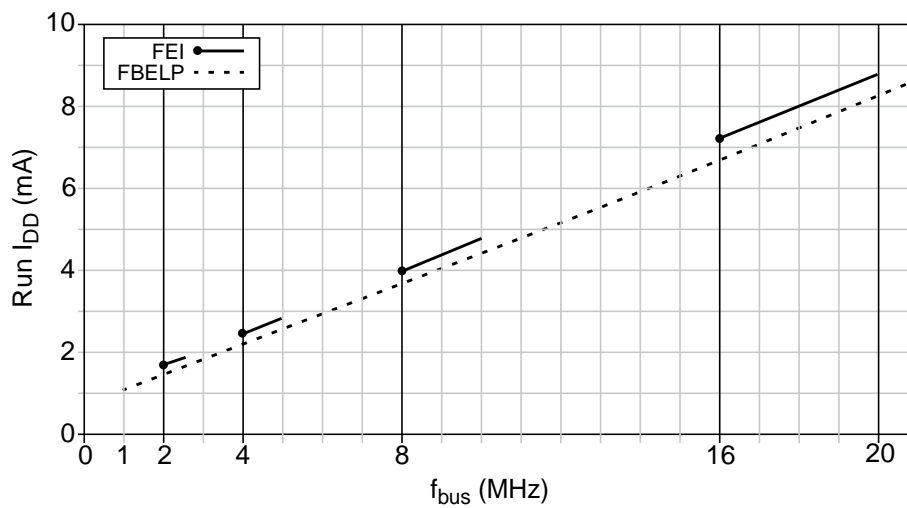
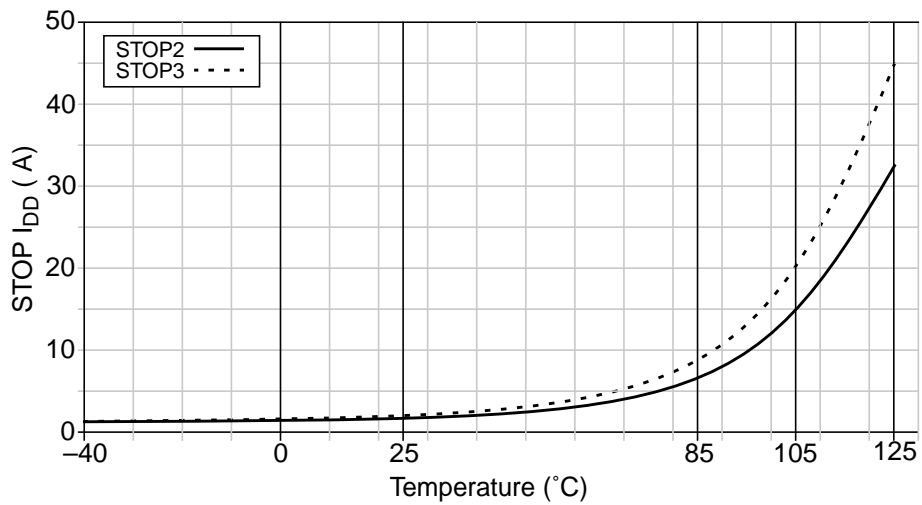

Figure A-5. Typical Run  $I_{DD}$  vs. Bus Frequency ( $V_{DD} = 5V$ )
Figure A-7. Typical Stop IDD vs. Temperature (VDD = 5V)
- 1 Typical values are based on characterization data at 25°C. See Figure A-5 through Figure A-7 for typical curves across voltage/temperature.